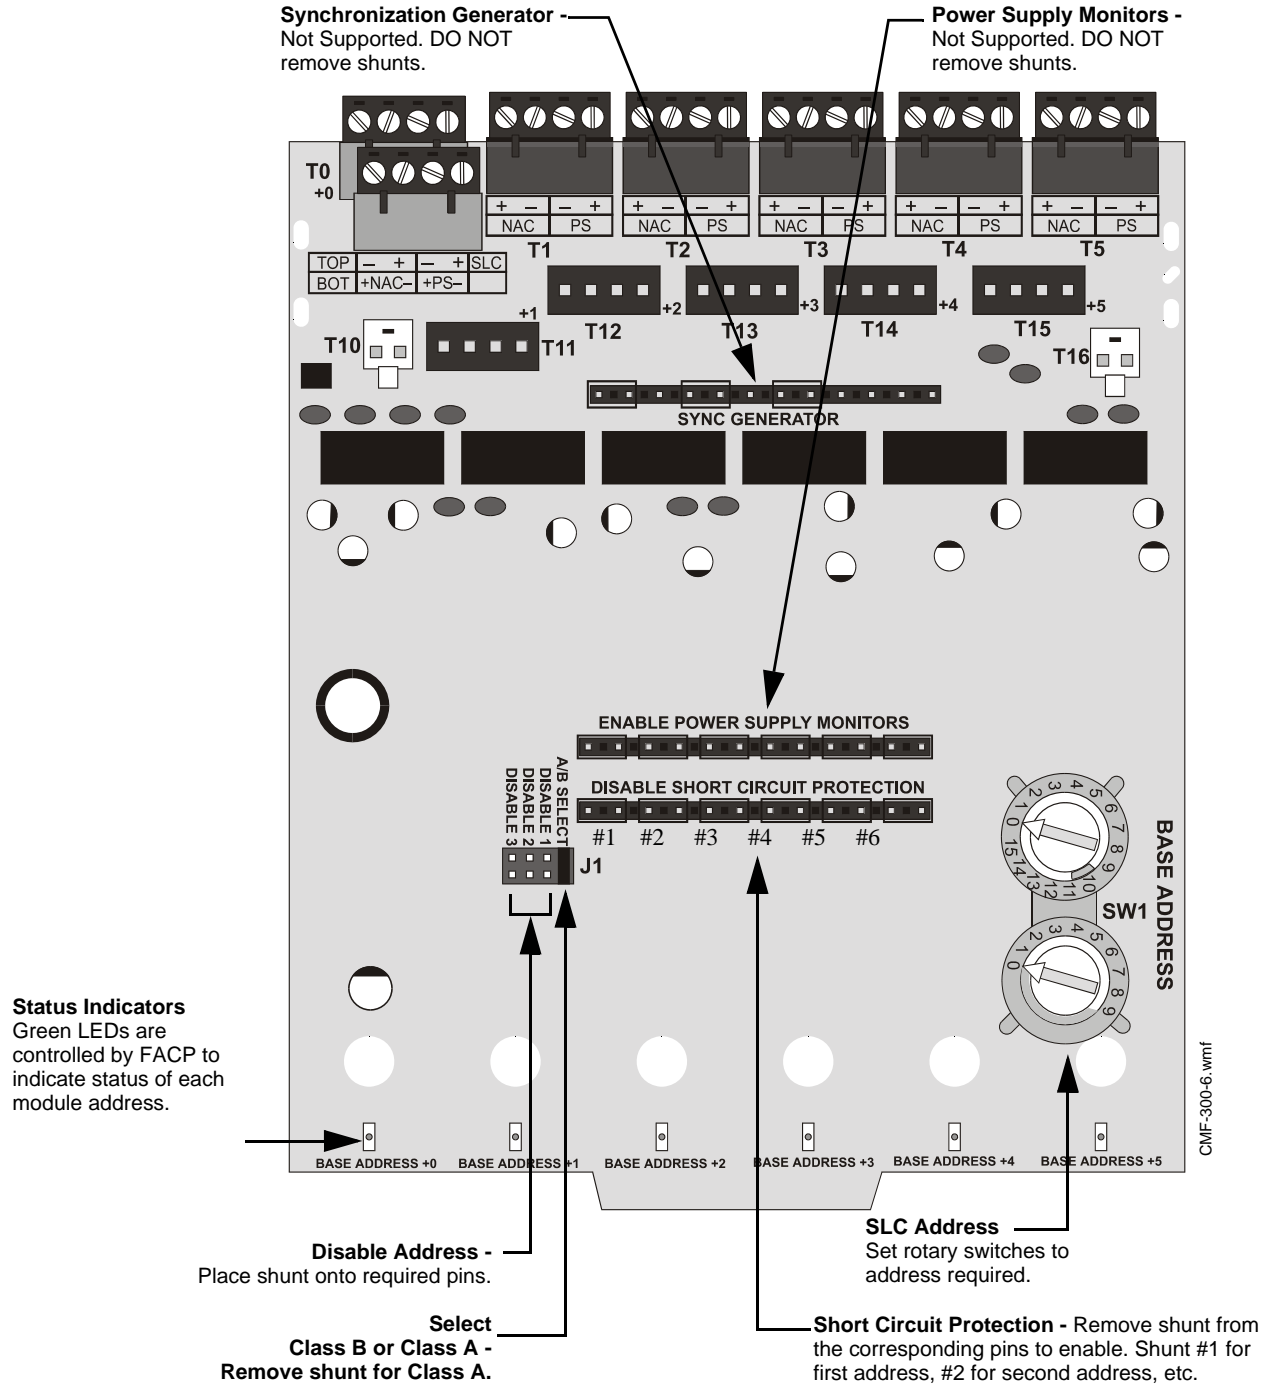

Figure 6.4 CMF-300-6 Control Module Settings
To set an SLC address, use a common screwdriver to adjust the rotary switches on the module to the desired address. See Figure 6.4 on page 48.
To use this module for Class A operation remove the small shunt from the “A/B SELECT” set of pins. See drawing below and Figure 6.4 on page 48.
To disable addresses, securely place one of the supplied small shunts onto the desired set of pins. See drawing and Figure 6.4 on page 48.
To enable “Short Circuit Protection” for an address, remove the large shunt from the corresponding pins of the pin block. See Figure 6.4 on page 48. Place unused shunts on single pin to store on board for future use.
**NOTE:** The MS-9050UD and ES-50X can support addresses 01 - 50. The MS-9200, MS-9200UD, MS-9200UDLS, and ES-200X can support module addresses of 01 - 99. The MS-9600, MS-9600LS, MS-9600UDLS, and ES-1000X can support module addresses 01 - 159. To set an SLC address, use a common screwdriver to adjust the rotary switches on the module to the desired address. See Figure 6.4 on page 48. For use with an MS-9600, MS-9600LS, MS-9600LSC, MS-9600UDLS, and ES-1000X, remove the stop on the upper rotary switch.